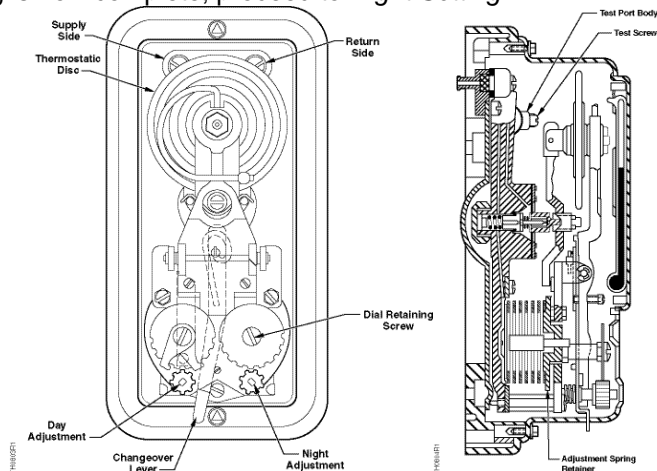

Figure 14. D Day-Night Thermostat Details.
1. Set changeover lever to the right until a "click" is felt. The thermostat is now controlling at the day dial setting (see Figure 14).